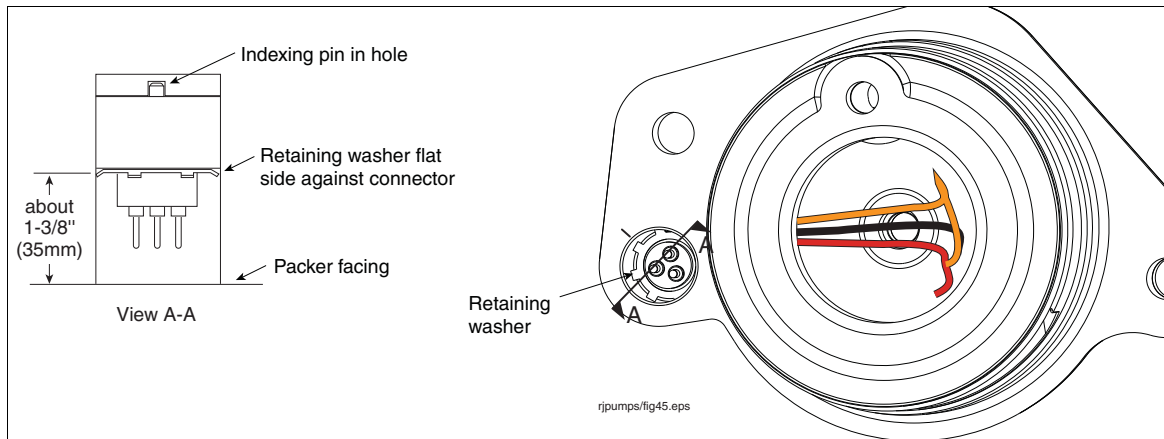

Figure 40. Correct Depth Of Male Connector In Packer Socket
13. Thread the wires of the new male connector down into the socket and out through the opening in the base of the socket into the packer wiring compartment. Gently pull the wires into the wiring compartment as you align the masking tape mark on the connector with the felt tip mark on the packer facing. When you have pushed the connector all the way into its socket it should not rotate if the indexing pin is in the index hole. Using the small ruler, measure the distance from the packer facing down to the connector, it should be a little more than 1-3/8" (35mm) (see Figure 40). Hold the wires tight to keep the connector in position and insert the retaining washer (with upturned teeth facing out) forcing it down until it is firmly against the connector. Recheck the 1-3/8" (35mm) measurement after installing the retaining washer to confirm that the connector is at the proper depth.